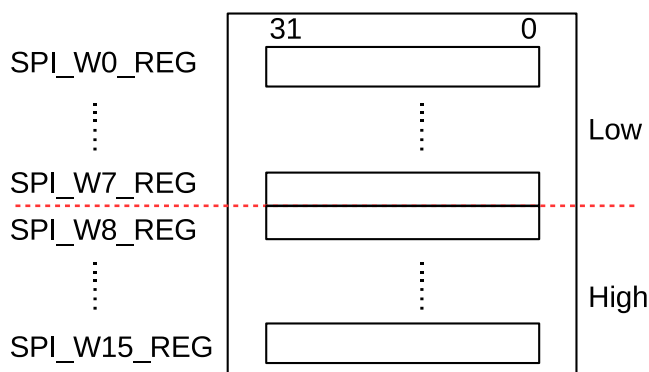

Figure 27-2. Data Buffer Used in CPU-Controlled Transfer
GP-SPI2 provides 16 x 32-bit data buffers, i.e., SPI\\_W0\\_REG ~ SPI\\_W15\\_REG, see Figure 27-2. CPU-controlled transfer indicates the transfer, in which the data to send is from GP-SPI2 data buffer and the received data is stored to GP-SPI2 data buffer. In such transfer, every single transaction needs to be triggered by the CPU, after its related registers are configured. For such reason, the CPU-controlled transfer is always single transfers
- **SPI Buffer:** `SPI_WO_REG ~ SPI_W15_REG`, see Figure 27-2. The data transferred in CPU-controlled mode is prepared in this buffer.